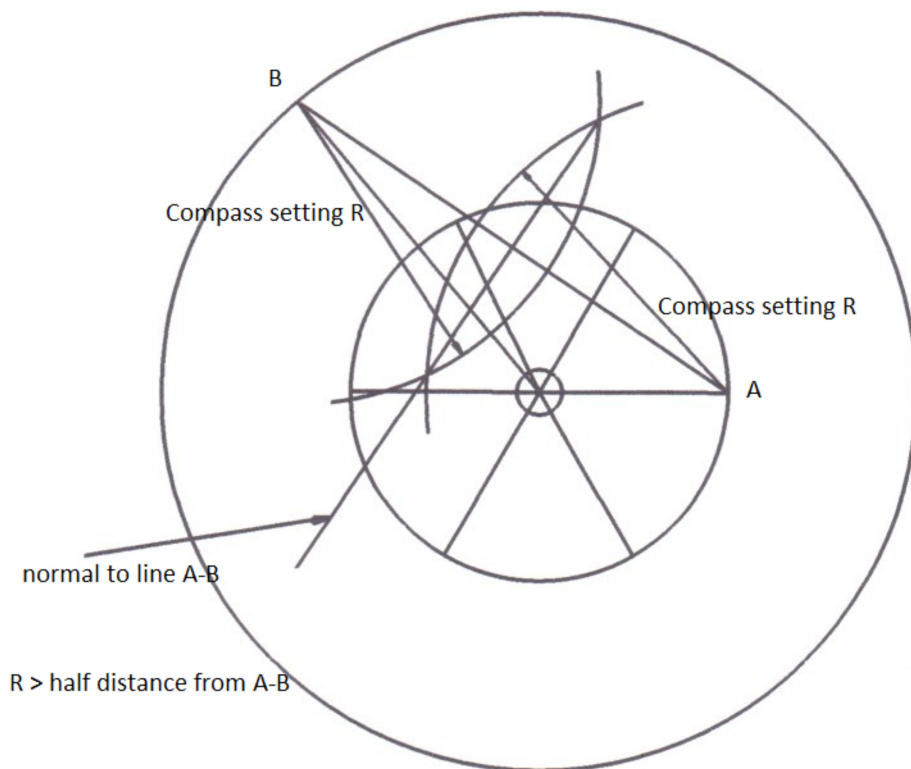

Figure 3
Start by drawing the inner and outer ring circles (full size) then split the inner ring circumference into n (6) equal parts. See figure 3. Using the line from point A to the ring centre as a reference draw a line at the required displacement angle d (130) from the ring centre to the outer ring circumference (point B).
Draw a line to connect the points A,B. Divide this line into 2 equal parts and construct a line at right angles to the line AB. Use your compass for this as it will generate both the division and the right angle line (normal) in one operation. See figure 3 again.